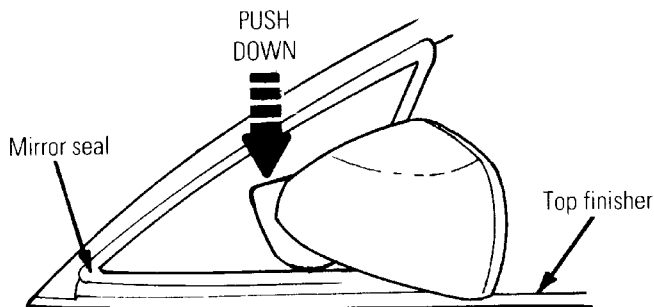

Figure 6
- b) Push the mirror down to seat the lower mirror seal against the top of the finisher (Figure 6).